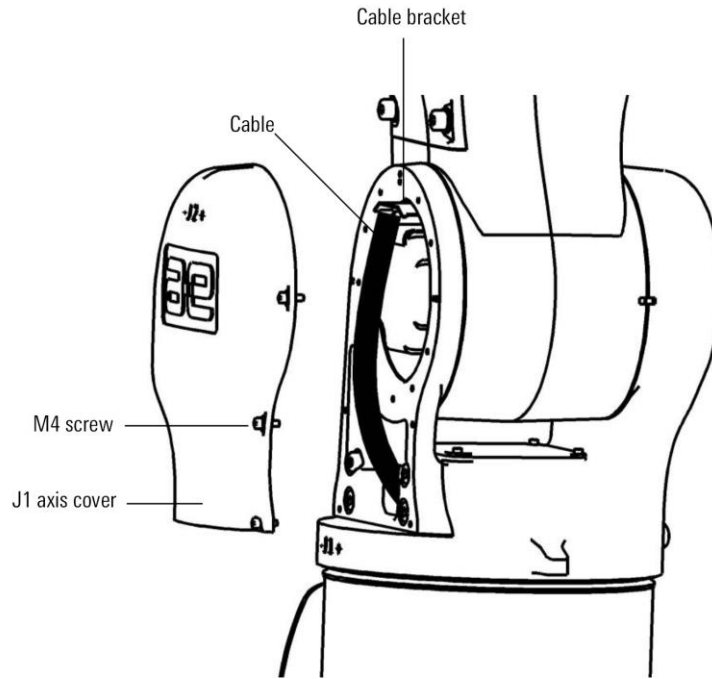

Figure 13-2 Overhaul of internal cable of J1 axis body
- Remove the cover of J1 axis body, as shown in Figure 13-2.